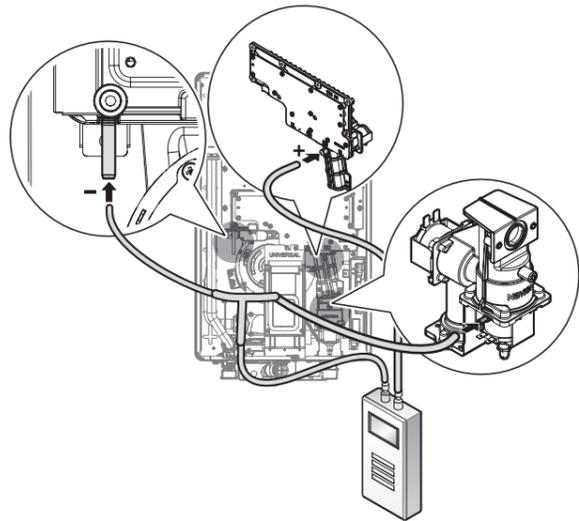

Figure 7
- b. Connect the + hose to the manifold, and then connect the - hose to the pressure feedback hose using a Tee hose connector as shown in Figure 7.